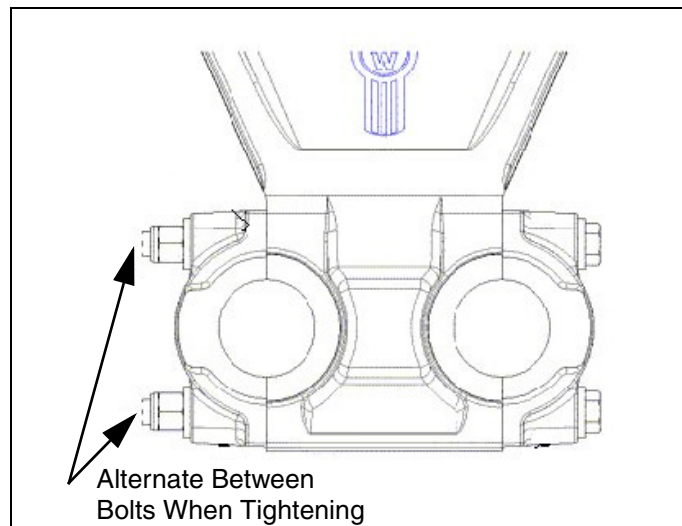

Figure 15-14
8. Tighten each joint evenly by alternating back and forth between the top and bottom cap bolts a minimum of 5 times (ensuring the joint is evenly clamped and the bushing is properly compressed). See Figure 15-14.